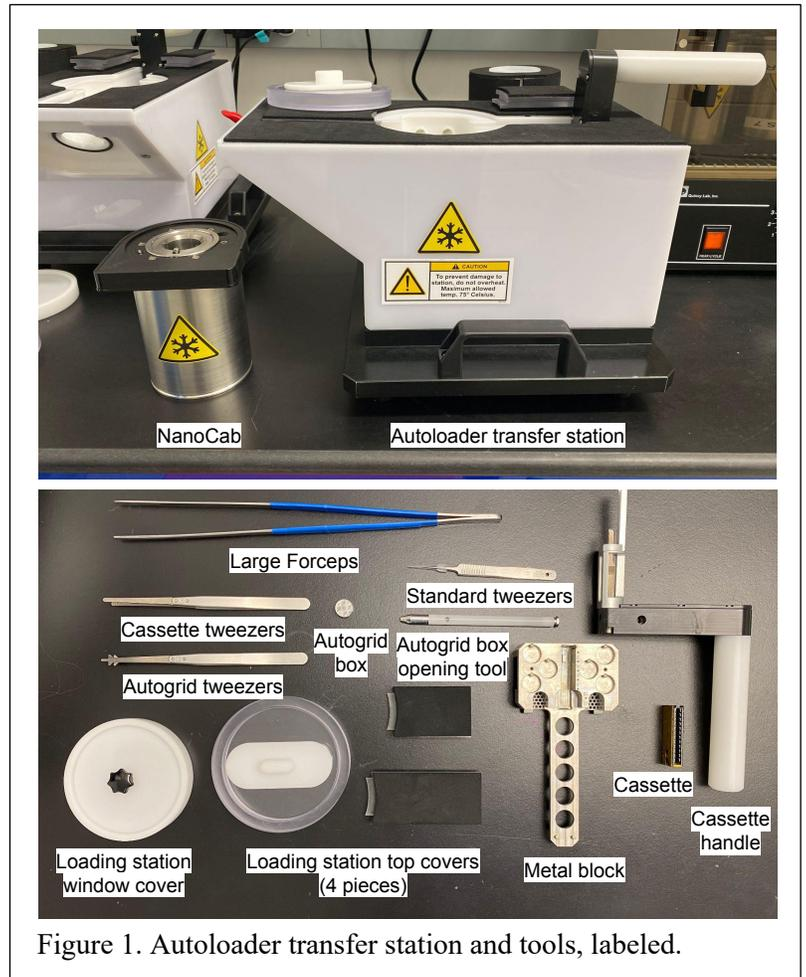

Figure 1. Autoloader transfer station and tools, labeled.
- 2.5. Definition of terms for tools/equipment can be found in Figure 1.
- 4.1.1. Gather the autoloader transfer station and tools (fig 1).